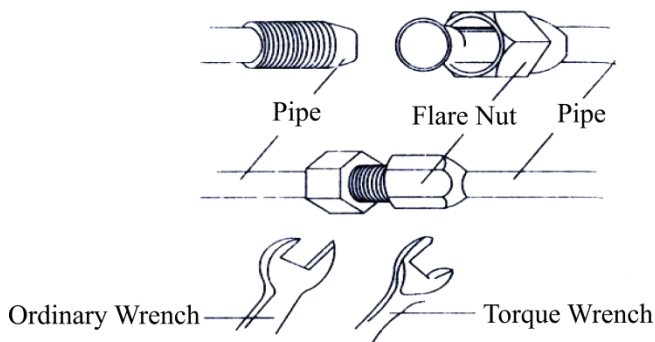

Fig.18
b. After that, tighten the screw by the torque wrench unit it clatters (as shown in Fig.18).